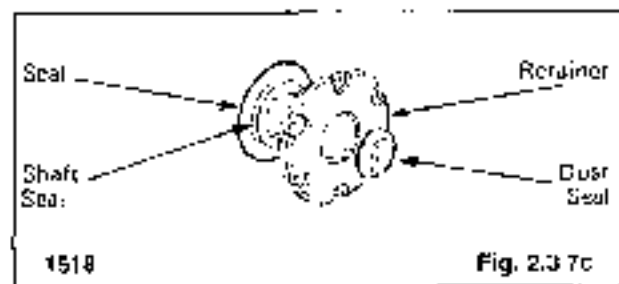

Fig. 2.3.7c
3. Install the dust seal in the retainer plate (fig. 2.3.7c). The metal side of the dust seal must face upward.
4. Install the retainer seal and the shaft seal (fig. 2.3.7c). The smooth or flat side of the shaft seal must face toward the retainer (fig. 2.3.7c).